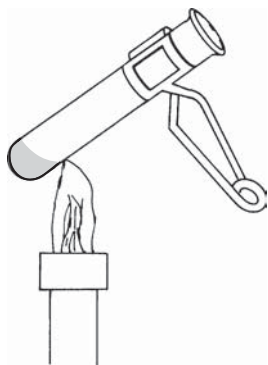

Figure 38.2
1. Dissolve 10 mg of the sweetener Equal in 1 mL of 3 M HCl in a test tube (100 × 13 mm). Heat the solution with a Bunsen burner, using a small flame (or with a microburner) to a boil for 30 sec. Do not heat the bottom of the test tube, but heat slightly above the surface level of the solution (Figure 38.2). As the solution boils, do not let the liquid evaporate completely. Set the solution aside to cool; this is the hydrolyzed aspartame.
2. Label six small test tubes (75 × 10 mm) as follows: (1) phenylalanine, (2) aspartic acid, (3) leucine, (4) aspartame, (5) hydrolyzed aspartame, (6) Diet Coca-Cola. Place about 0.5-mL samples in each test tube.